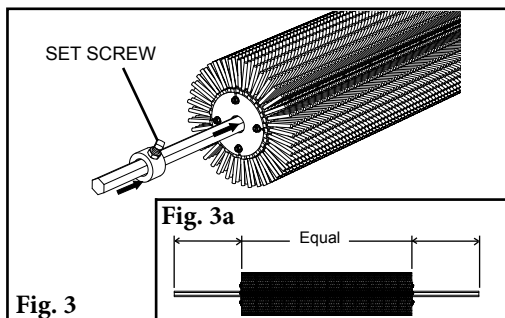

Fig. 3
- 3a. **Replacing the whole drum.** Loosen the drum collar set screw and remove collar on one end (Fig. 3). Insert the drum shaft into the new drum until the drum is centered on the shaft (Fig. 3a). Replace the drum collar and tighten the set screw.